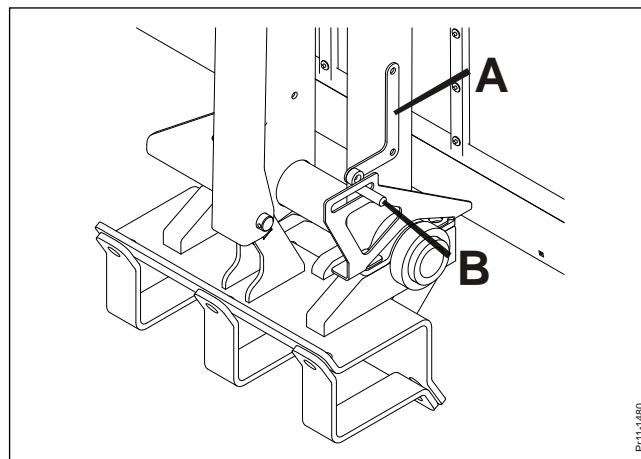

Fig. 5-39
**Fig. 5-39** A sensor is mounted for each belt unit in order to check whether the belt unit is folded up. The magnet is mounted on fitting **A** and the sensor is mounted on fitting **B**. The magnet is mounted with felt washer. The sensors are marked with H for right and V for left and are placed according to this.